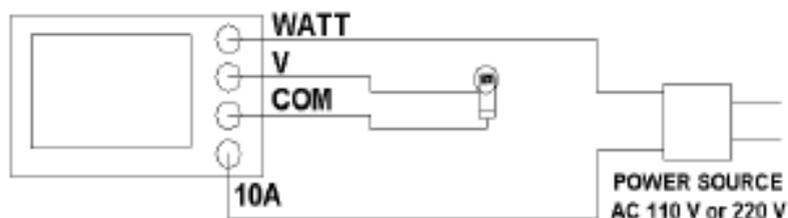

Fig. 2
Make the wire connection and connect the test leads into terminals (3-16, 3-17, 3-18, 3-19 – Fig. 2)
6. * Connect the "LOAD" to the terminals of 3-17, 3-18, (Fig. 2)
- * Connect the "Power Source" to the terminals of 3-16, 3-19 (Fig. 2)